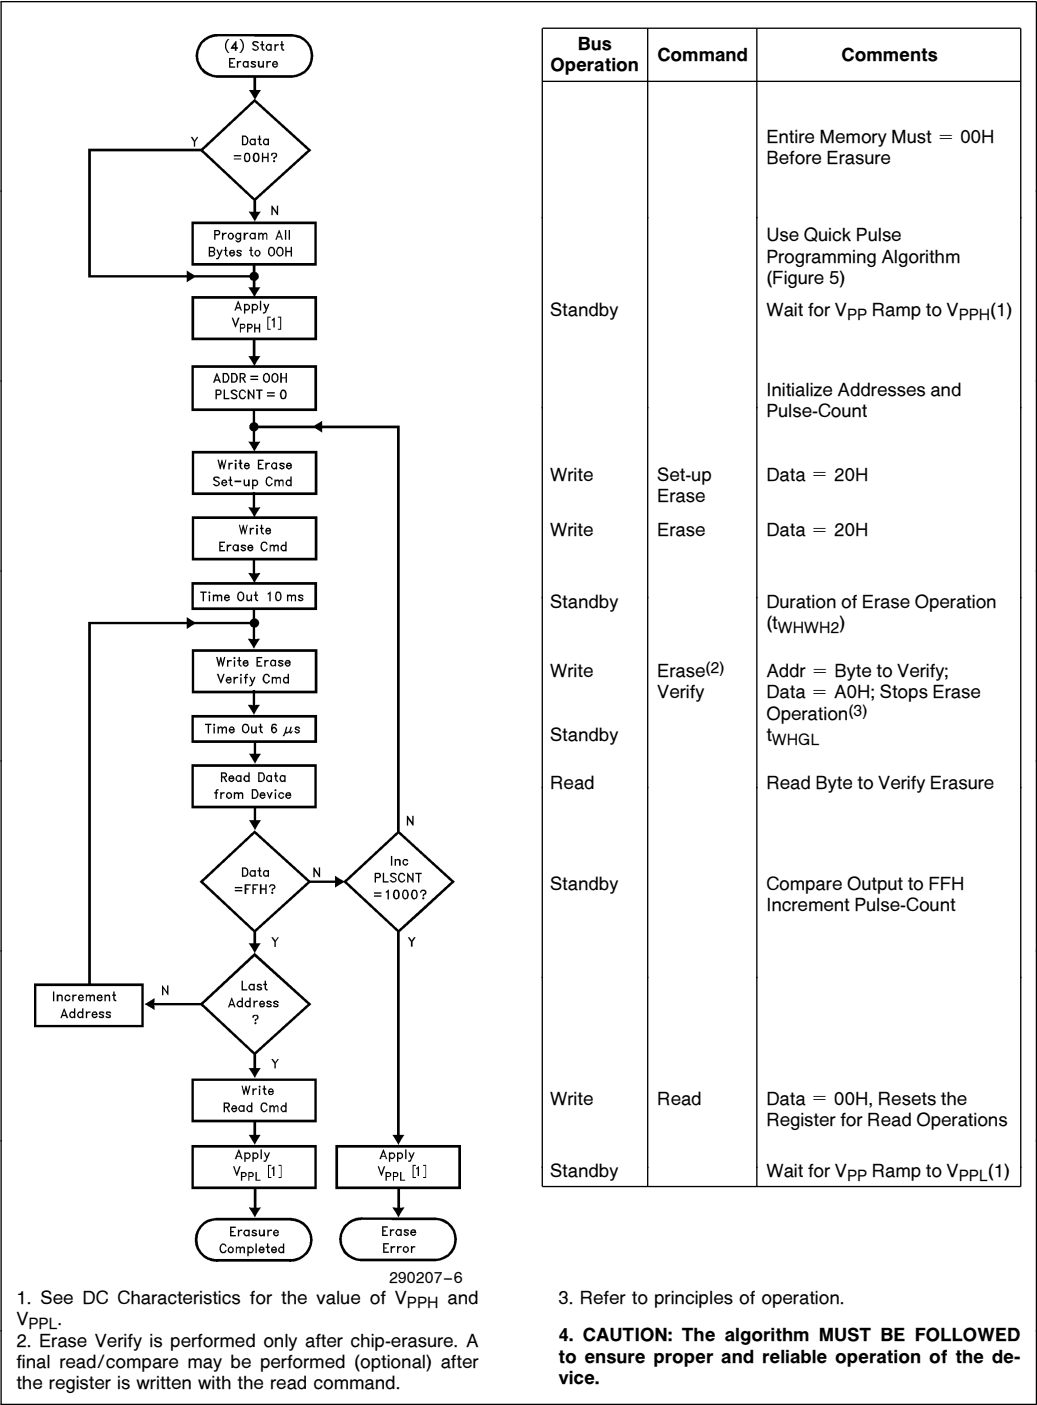

Figure 6. 28F010 Quick Erase Algorithm
5. Figure 6 illustrates the Quick Erase Algorithm.
In the case where the data read is not FFH, another erase operation is performed. (Refer to Set-up Erase/Erase). Verification then resumes from the address of the last-verified byte. Once all bytes in the array have been verified, the erase step is complete. The device can be programmed. At this point, the verify operation is terminated by writing a valid command (e.g. Program Set-up) to the command register. Figure 6, the Quick Erase algorithm, illustrates how commands and bus operations are combined to perform electrical erasure of the 28F010. Refer to AC Erase Characteristics and Waveforms for specific timing parameters.
Erase execution then continues with an initial erase operation. Erase verification (data = FFH) begins at address 0000H and continues through the array to the last address, or until data other than FFH is encountered. With each erase operation, an increasing number of bytes verify to the erased state. Erase efficiency may be improved by storing the address of the last byte verified in a register. Following the next erase operation, verification starts at that stored address location. Erasure typically occurs in one second. Figure 6 illustrates the Quick Erase algorithm.